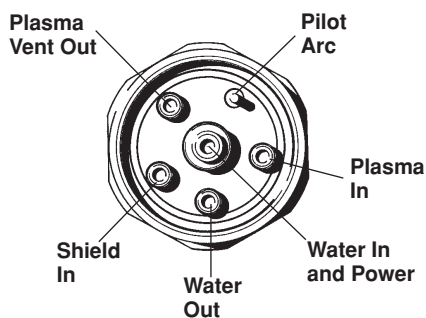

Figure 3-30 PAC184/PAC186 Torch Gas, Coolant and Pilot Arc Port Locations
1. Align the PAC184 or PAC186 torch ports to the torch quick disconnect receptacle, then push into place. See Figure 3-30.